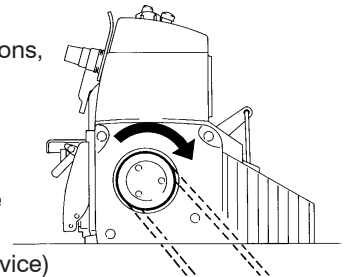

Fig.5
3. When the machine is used for the first time, turn on the power and then check the rotating direction of the machine pulley. The machine pulley should turn clockwise as seen from the machine pulley. (Fig. 5)